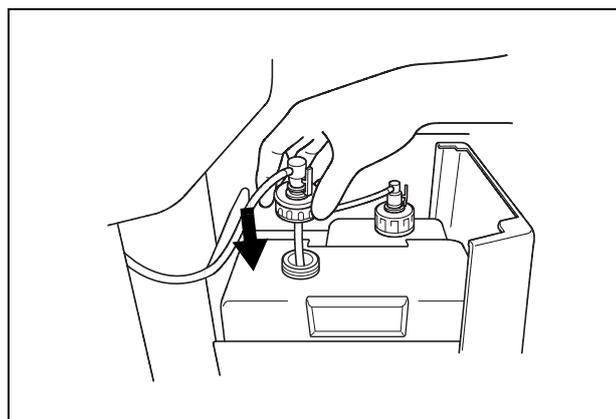

Figure 7.91
20. Attach the cap to the detergent tank and close the detergent/alcohol drawer (see Figure 7.91).